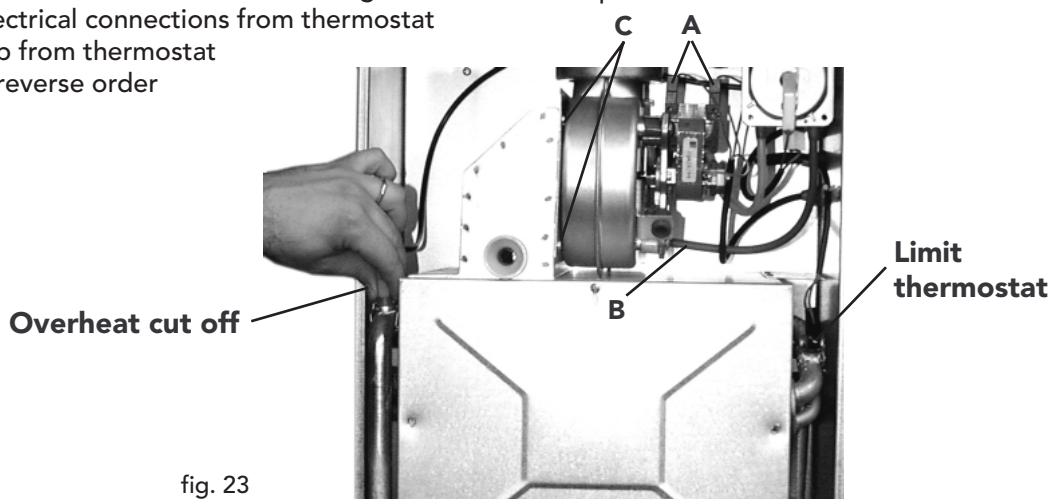

fig. 23
Removal of fan (fig. 23)
Limit thermostat, or overheat cut off thermostat (fig. 23)
- Identify the location of the faulty thermostat from fig 23